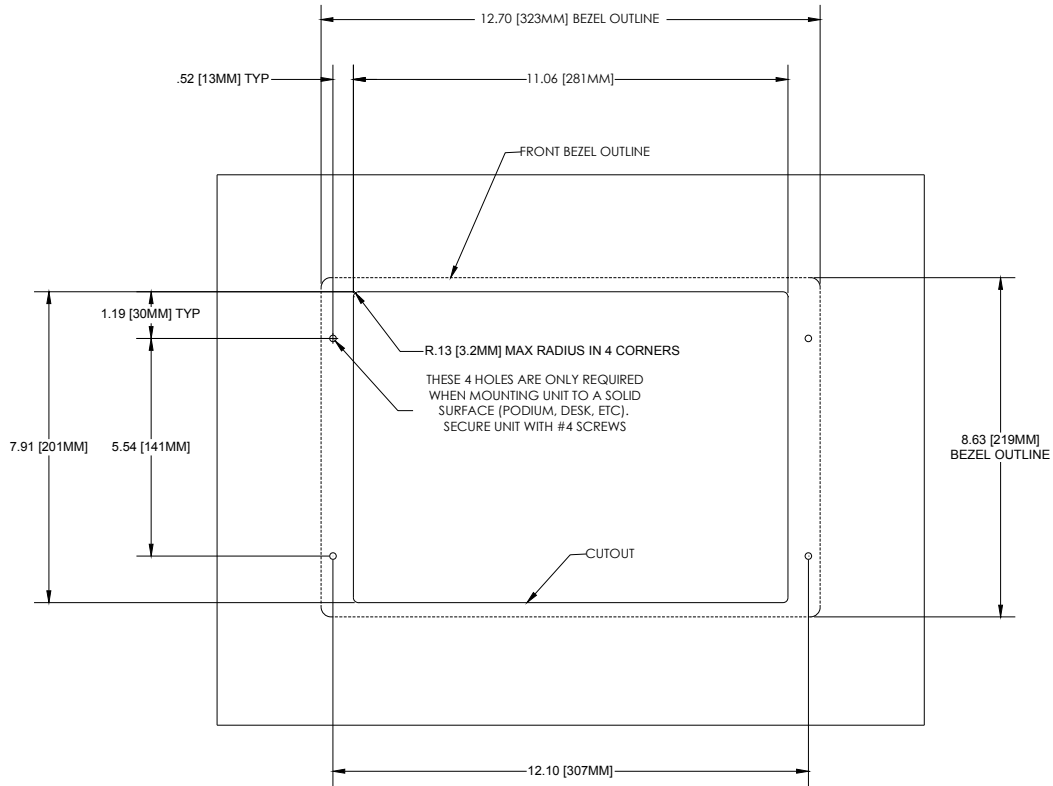

FIG. 13 MVP-WDS Wall Mount cutout dimensions using solid surface screws
- Refer to **SP-5965-01** for detailed installation dimensions (reproduced in FIG. 13).
1. Cut out the surface for the MVP-WDS docking station using the dimensions shown in FIG. 13.